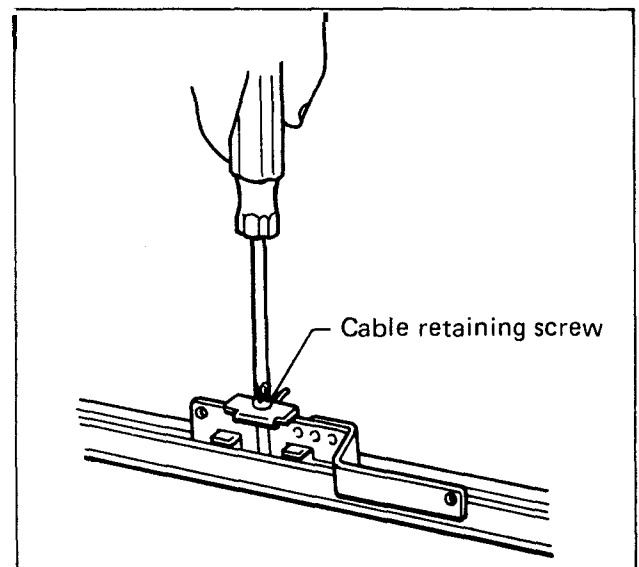

Fig. 6
7. Loosen the cable retaining screw on the top of the closing plate that has the overlap arm. The screw need only be loosened; be careful not to remove it completely. (Fig. 6)